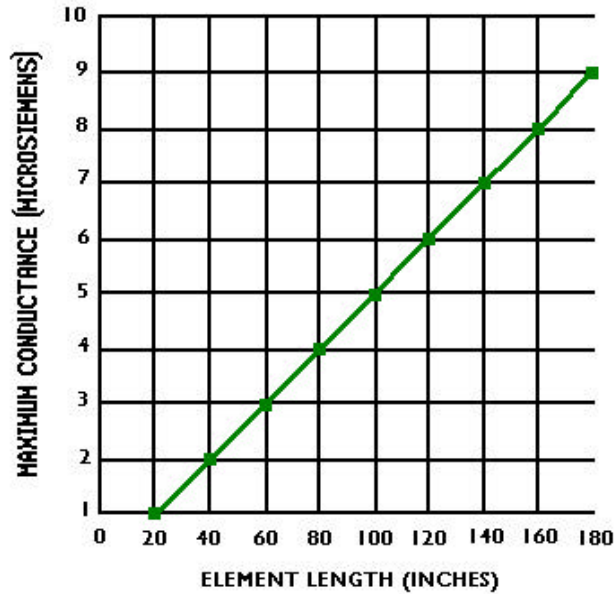
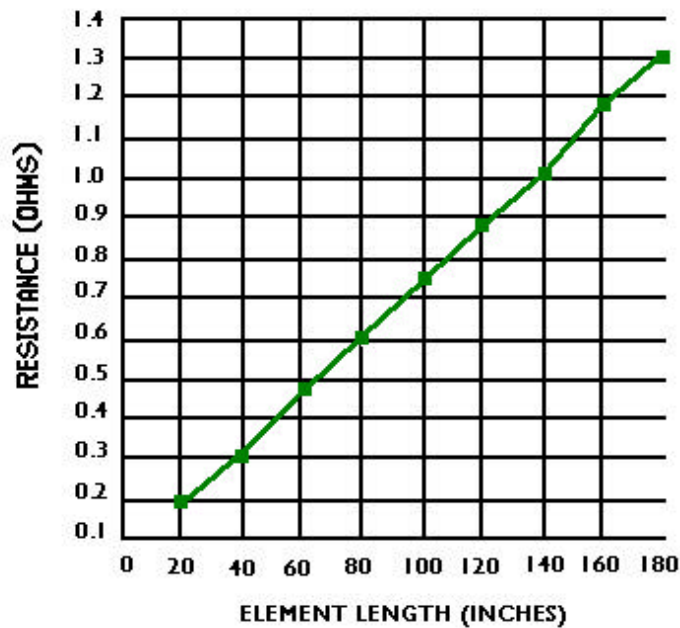

Figure 19. CFD Element Maximum Conductance
Figure 20. CFD Element Center Conductor Resistance
- (2) Disconnect both ends of the sensing element.
- (3) Conductance.
- c. For a new sensing element, conductance must be less than 0.050 microsiemens per inch of element length (See Figure 19). As an example, for a 100-inch long sensing element, the conductance reading must be less than  $0.050 \times 100 = 5$  microsiemens.
- (4) Center Conductor Resistance.
- b. The resistance must be less than 7 milliohms per inch of sensing element length plus 45 milliohms for each connector. (see Figure 20). As an example, for a 100-inch long CFD element, the resistance reading must be less than  $(7 \times 100) + 45 = 745$  milliohms or 0.745 ohms.